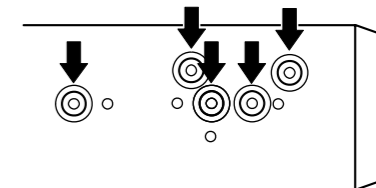
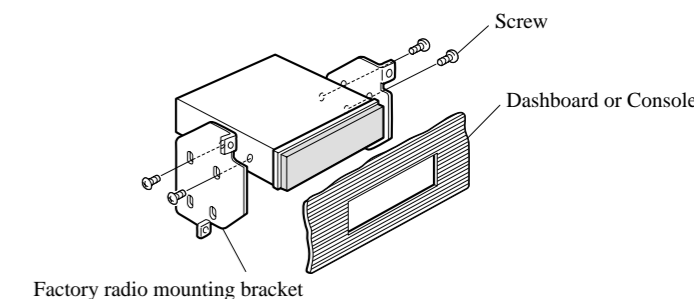

Fig. 10
Fig. 11
**2. Fastening the unit to the factory radio mounting bracket. (Fig. 10) (Fig. 11)**